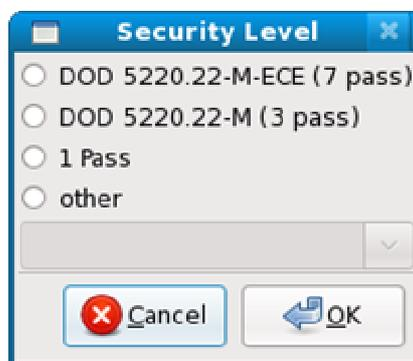

Figure 3.5 – Security Level Pop-up Window
3.11 After pressing the “Erase Hard Drive” button, a pop-up window will appear that allows you to choose the level of overwrite you would like to execute on the selected drive. Figure 3.5 shows this pop-up window.
NOTE: Choices of overwrite level is a configurable option on many Tabernus products, so the screen displayed on your unit may not exactly match the one shown in Figure 3.5.